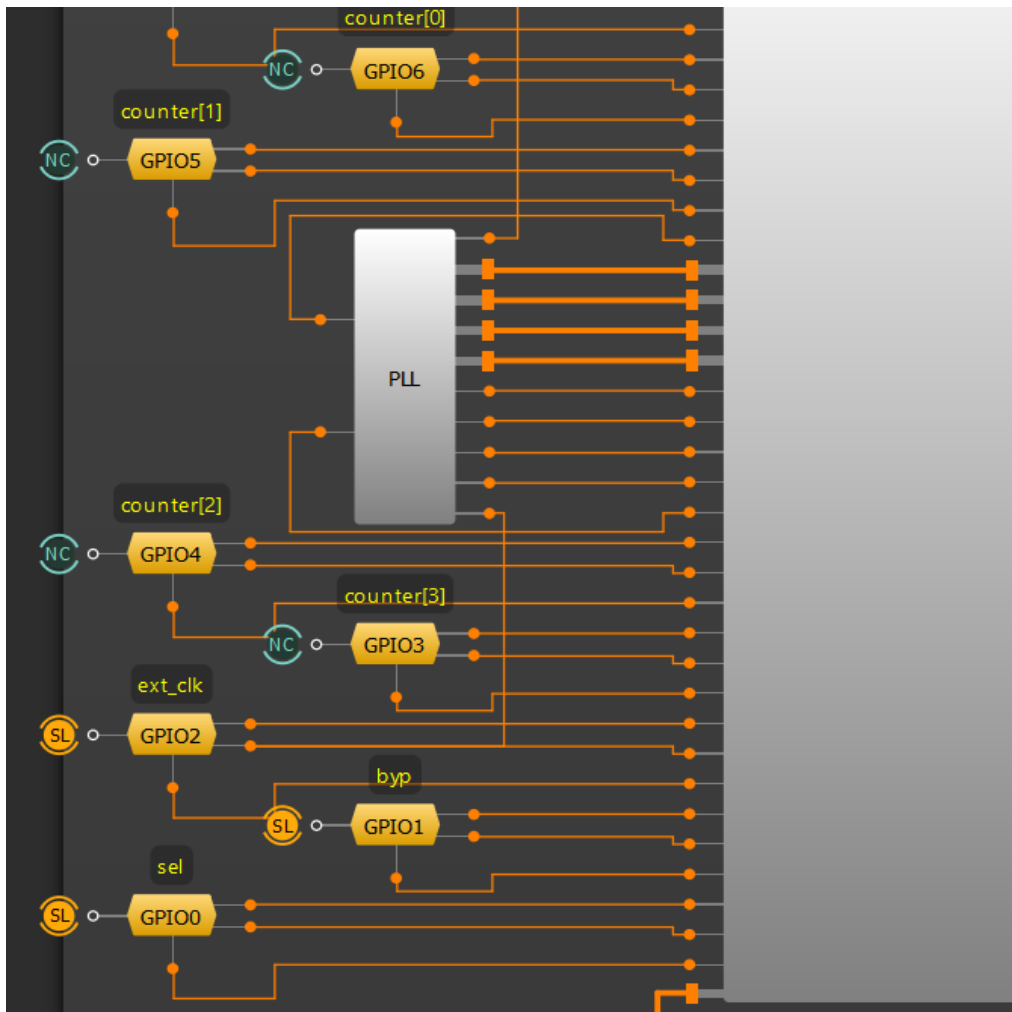

Figure 5: GPIO Connections to generate waveform during Emulation
9. Connect the Development Board and attach it to Adaptor Board with the SLG47910 part in the socket on it. Click on the Debug button on the ForgeFPGA Workshop studio (Figure 5) and select Emulation.